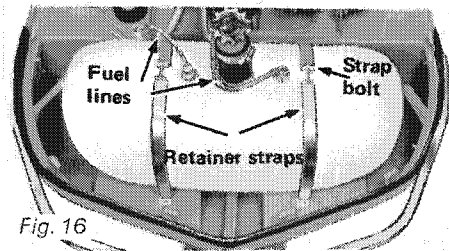

Fig. 16
1. Disconnect fuel lines by pulling plastic lines away from tank. (See Fig. 16).